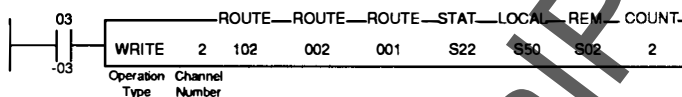

Figure 7-2 - Example WRITE Instruction.
An example of a WRITE operation is shown in Figure 7-2. A WRITE operation copies storage register data residing in the local processor to the specified CM register.
Circuit Operation (Refer to Figure 7-2)
When input 03-03 of the local processor in Figure 7-2 makes the transition from open to closed, the contents of storage registers 0050 through 0051 (the count of two storage registers starting with 0050) in the local processor are copied to registers 0002 and 0003 in the CM. Channel 2 is used for the transmission, and local storage register 0022 contains the message status information. In this example, the local processor is connected to port one of the NIM numbered 02 (ROUTE 102) and the remote CM is connected to port zero of the NIM module numbered 01 (ROUTE 001, CM #001).
5. The possible number of positions in each line of the contact matrix controlling a WRITE operation is reduced by the number of statements used inside the WRITE box. In Figure 7-2, the maximum size the contact matrix could be is 4 x 7 (28 contacts).